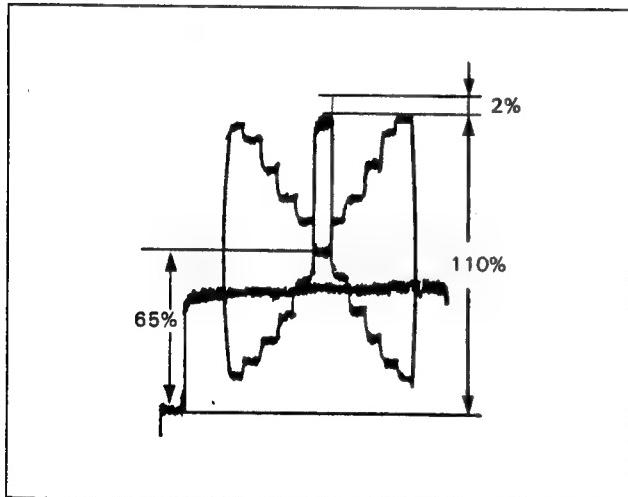

Fig. 1-7.
- ① Shoot the color bar chart with $41\mu\text{s}$ size. (See Fig. 1-7.) (without white chart part)
- ② Set S9101 to the lower.
- ③ Turn AGC ON.
- ④ Monitor C OUT (CN912⑧) on the oscilloscope ($10\mu\text{s}/0.1\text{V}/\text{div}$).